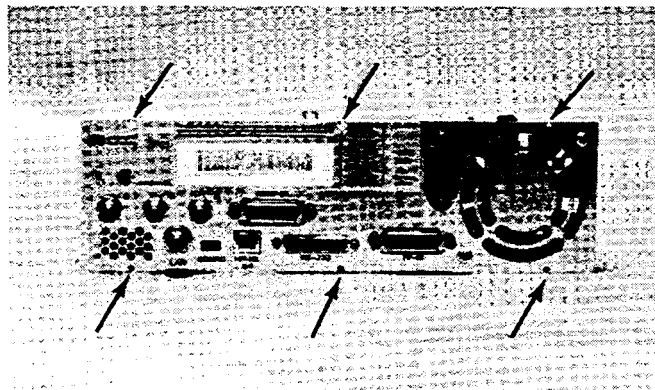

Figure 2-4. Rear Panel Screws
1. Remove the six screws (Figure 2-4) holding the rear panel to the case.